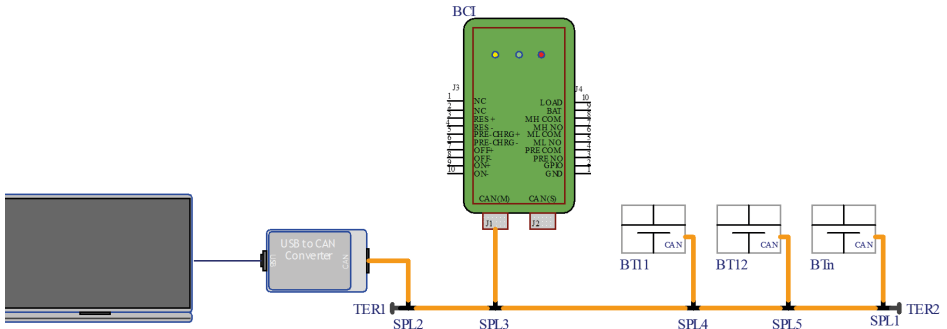

Figure 16. Renumber battery 1
2. Select the 'Scan' button to start scanning for devices. You can also select the scan/refresh icon in the top-left corner (Figure 16).